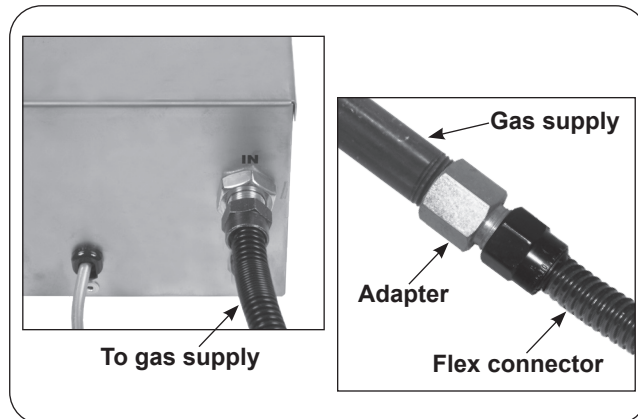

Fig. 7-2
2. Remove the adapter that is loosely connected to the flex connector. Attach the adapter to the gas-supply stub using a pipe compound resistant to all gasses. Tighten securely. Then attach the open end of the flex connector to the adapter. Tighten securely (See Fig. 7-2).